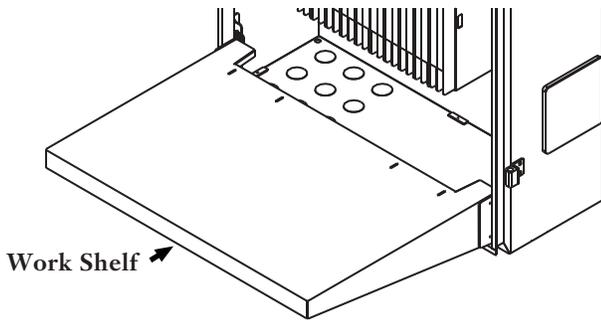

Figure 6
6.2 To install, simply hook the four work-shelf flanges into the mounting brackets attached to the unit (Figure 6).